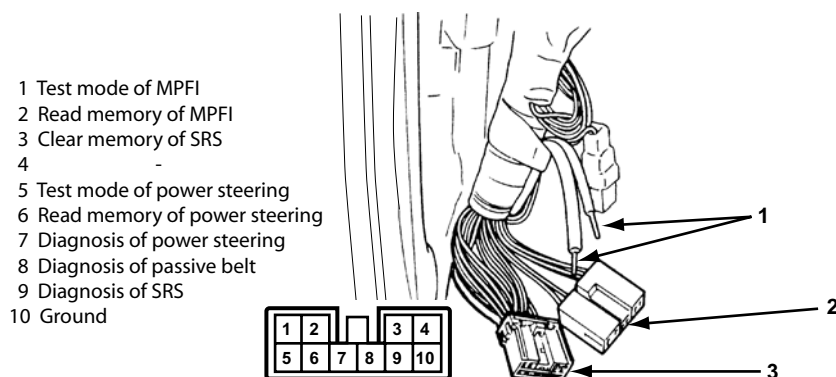

Figure 15-43 1992-95 SVX models (connectors in left kick panel)
- “1992-95 SVX models (connectors in left kick panel)” on page 205 (Figure 15-43)